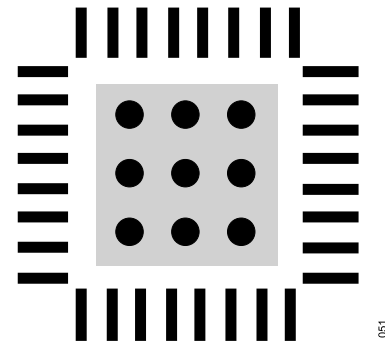

Figure 66. Exposed Pad Layout Example, Top View
- ▶ Vias should be placed to connect all layers of copper, allowing for efficient heat and energy conductivity. For an example, see Figure 66, which has nine vias arranged in a 3 inch  $\times$  3 inch grid in the pad area.